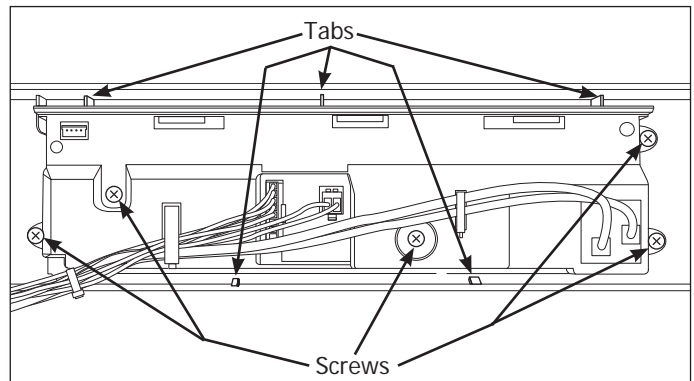

Figure 4-15. Gallery Control Shown
4. Release the two tabs at the bottom and the three tabs at the top, and lift the control board out. (See Figure 4-15)